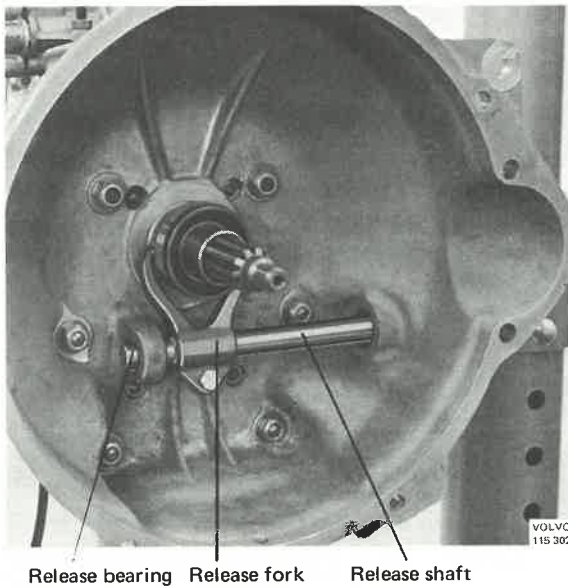

Fig. 43-55. Throw-out shaft and bearing
14. Remove the disengaging bearing, lever and disengaging shaft, Fig. 43-55. Remove the nuts securing the clutch casing. Remove the casing.